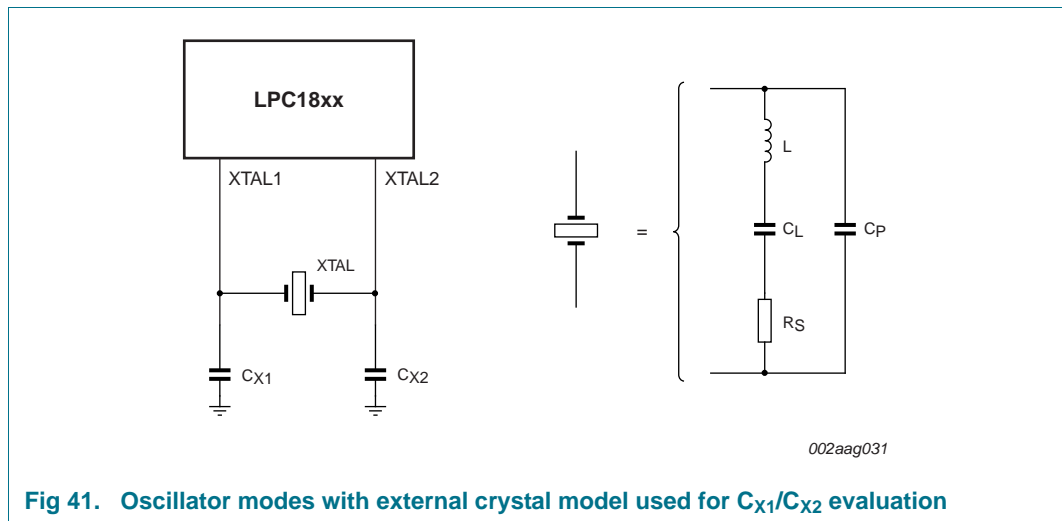

Fig 41. Oscillator modes with external crystal model used for C_{X1}/C_{X2} evaluation
- External components and models used in oscillation mode are shown in Figure 41, and in Table 40 and Table 41. Since the feedback resistance is integrated on chip, only a crystal and the capacitances C_{X1} and C_{X2} need to be connected externally in case of fundamental mode oscillation (L , C_L and R_s represent the fundamental frequency). Capacitance C_P in Figure 41 represents the parallel package capacitance and must not be larger than 7 pF. Parameters F_c , C_L , R_s and C_P are supplied by the crystal manufacturer.